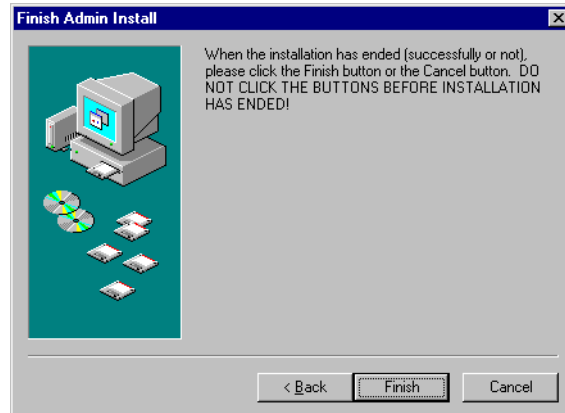

Figure 70. Completing the Terminal Server installation wizard
5. Complete the Terminal Server installation wizard as shown in Figure 70. Then, restart your computer.